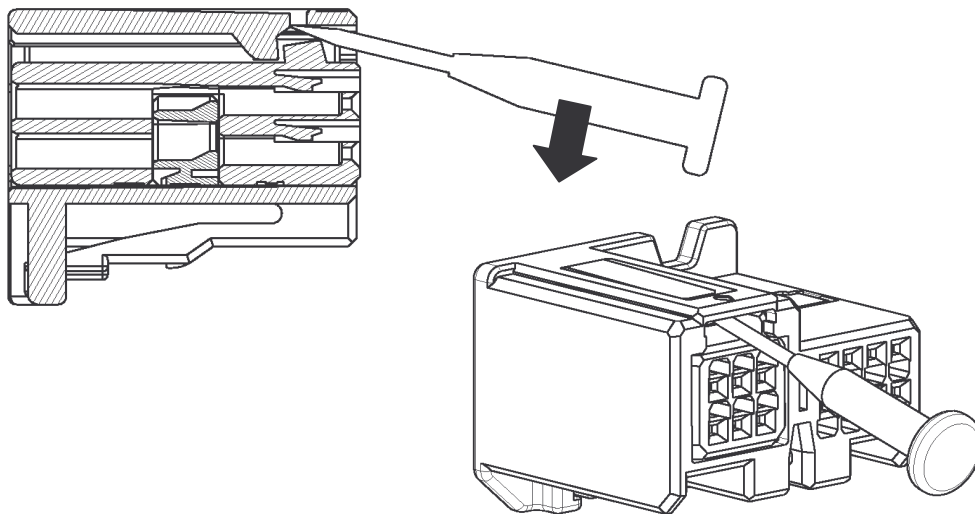

Fig.19
(2) Extract 6Pos. female housing from 8Pos. female housing
- ① Insert the jig, 1mm blade screw driver, into the point shown on Fig.19, and draw out the lance.
- ② Check to make sure that the 6Pos. female housing can not be with drawn by pulling the housing.